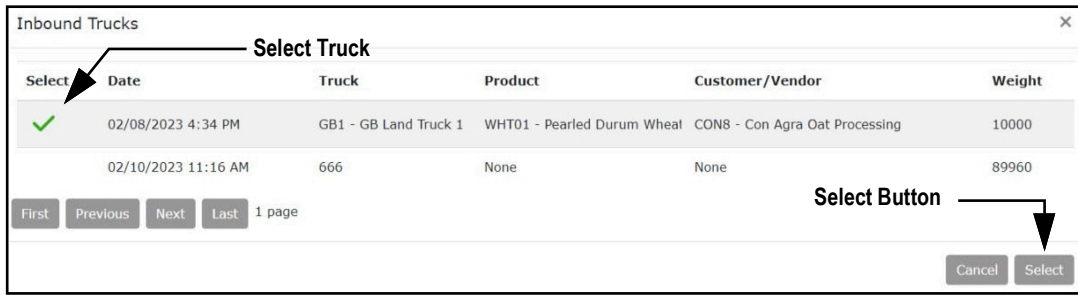

Figure 9-10. Inbound Trucks Window
- The Inbound Trucks window displays (see Figure 9-10 on page 126).